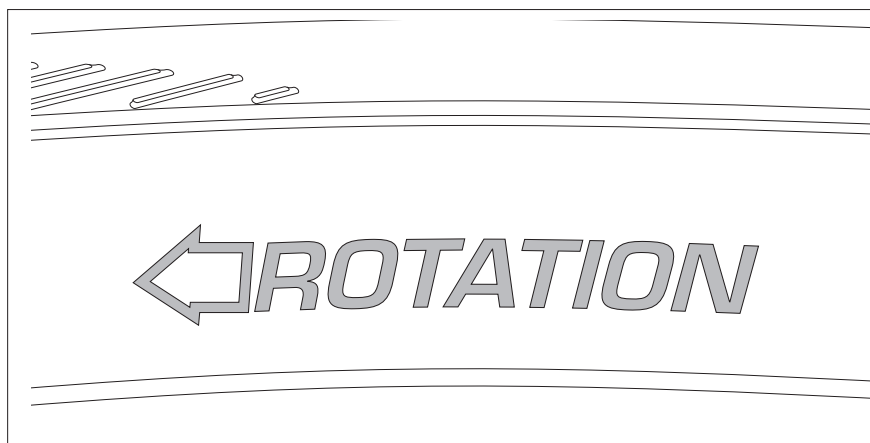

Fig.12
- Observe the rotation direction on the tyre (Fig.12).